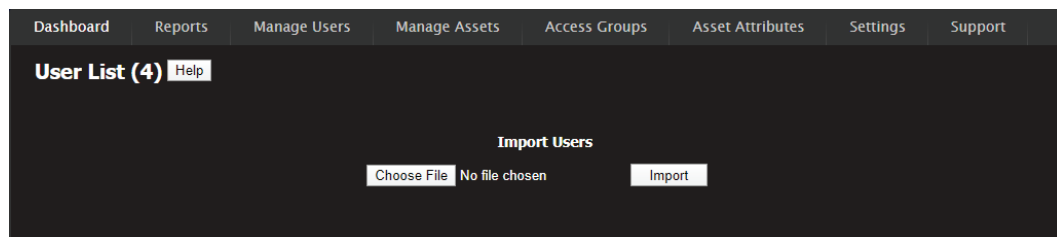

Figure 6: Import User Screen
- Browse to the user file you have created, select the file and click the Import button (figure 6).